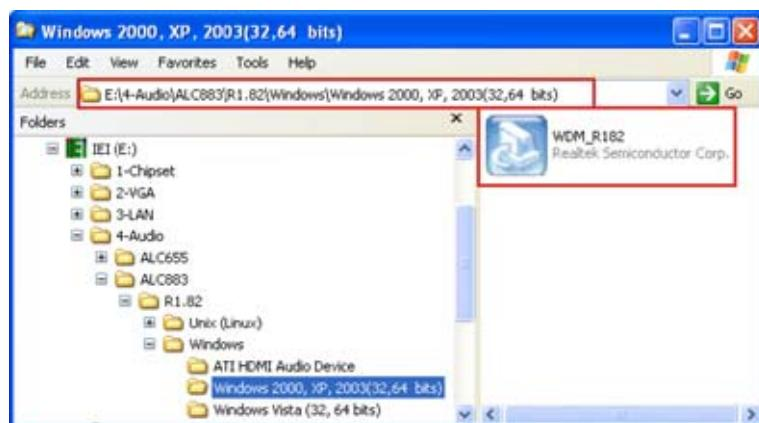

Figure 7-26: HD Audio Driver Options
Step 58: Browse to “E:\4-Audio\ALC883\Windows\Windows 2000, XP, 2003(32,64 bits)” **Figure 7-26**
Step 59: Double-click the installation file in **Figure 7-26**.